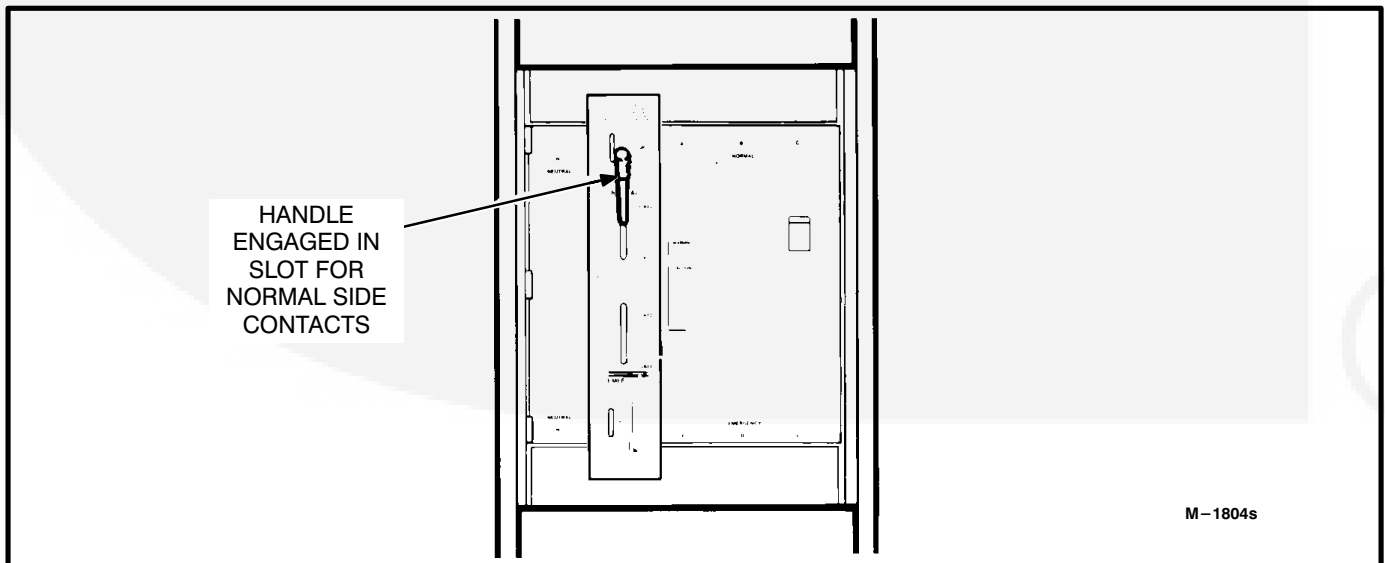

FIGURE 3-1. MANUAL OPERATION
3. A manual operating handle is provided with the transfer switch. The handle is a steel rod or tube, with a knob or hand grip on one end. On standard transfer switches (Figure 3-1), there are two manual operator slots—one for the Normal (source 1) contacts and one for the Emergency (source 2) contacts.